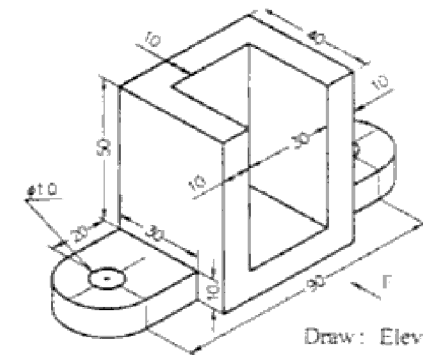

Figure 1
2. Draw the sectional front view, top view and side view of the stopper given in Figure 1.